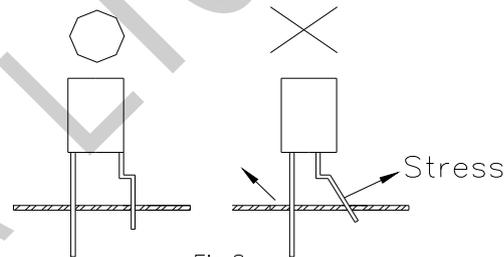

Fig. 8
3) Form the lead to ensure alignment between the leads and the hole on board, so that stress against the LED is prevented. (Fig.8)